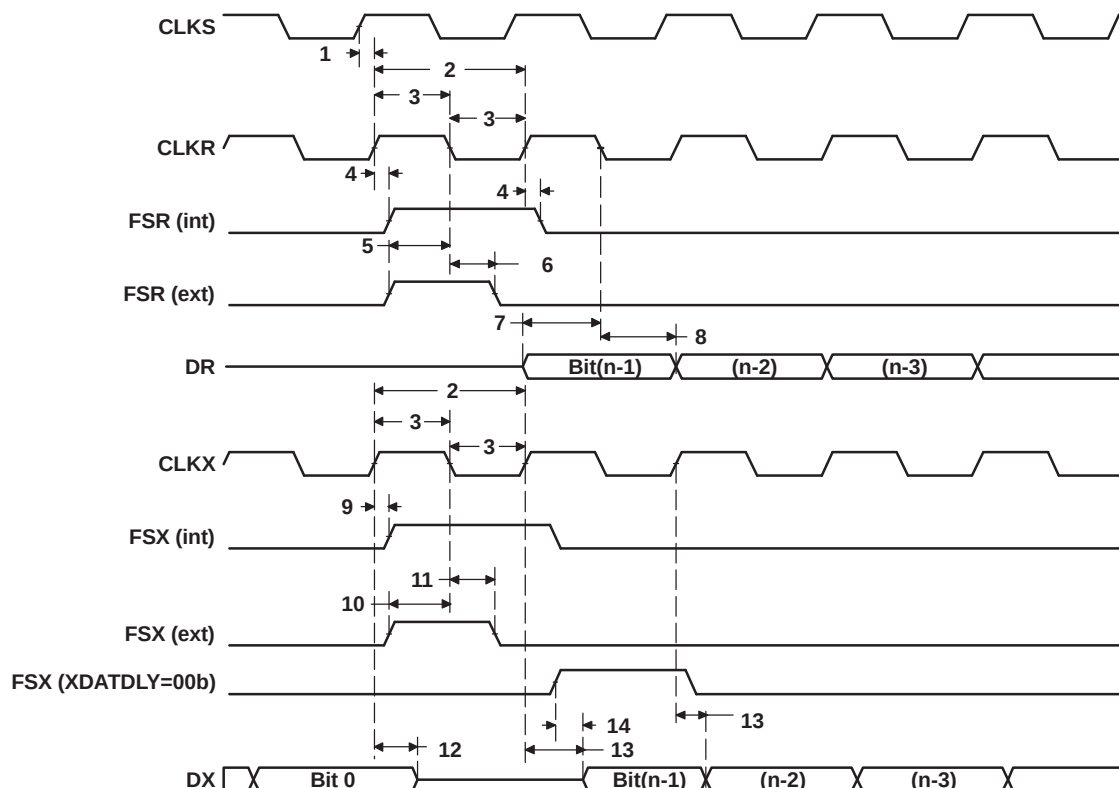

Figure 5-40. McBSP Timing
5.12.1 Timing Requirements for McBSP ⁽¹⁾ ⁽²⁾ (see Figure 5-40